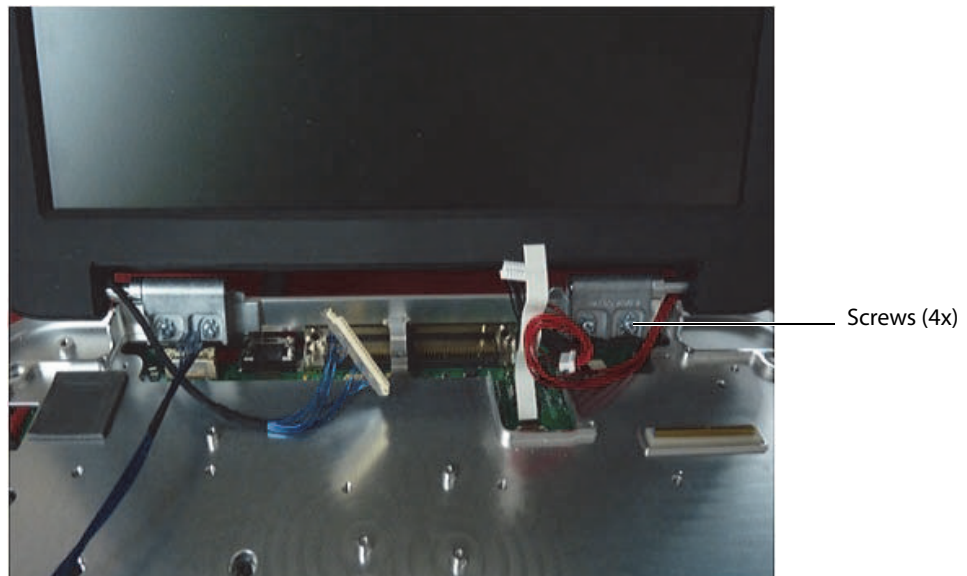

Figure 6.7 Display Screws
- 11 Remove the 4 screws from the LCD display hinges as shown in Figure 6.7.